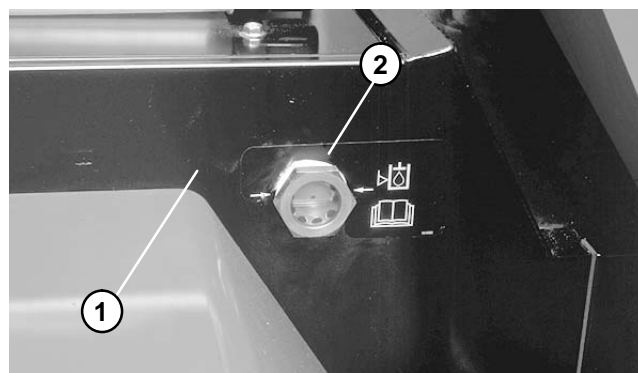

Figure 94
4. With cutting units up and oil warm, look into sight glass. If hydraulic oil is not even with arrows, add enough to raise to proper level. Do not fill full if oil is cold (Fig. 94).